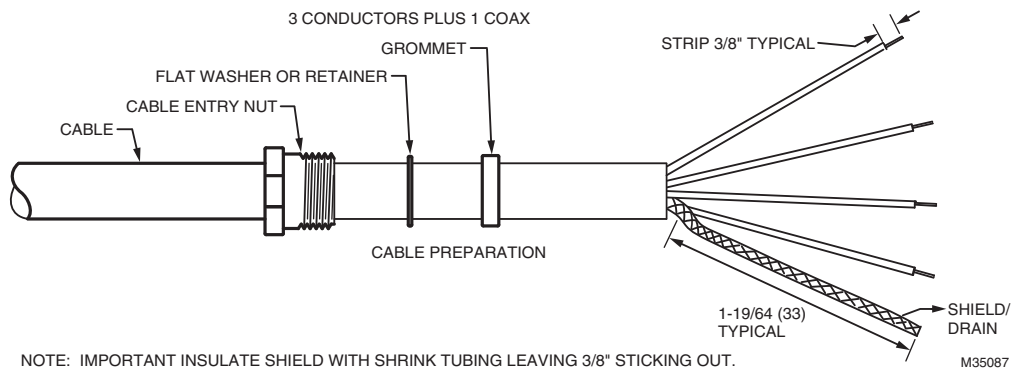

Fig. 5. C330S & C330 Cable Preparation.
8. Strip each wire 3/8" as shown in the assembly drawing Fig. 5 on page 7.